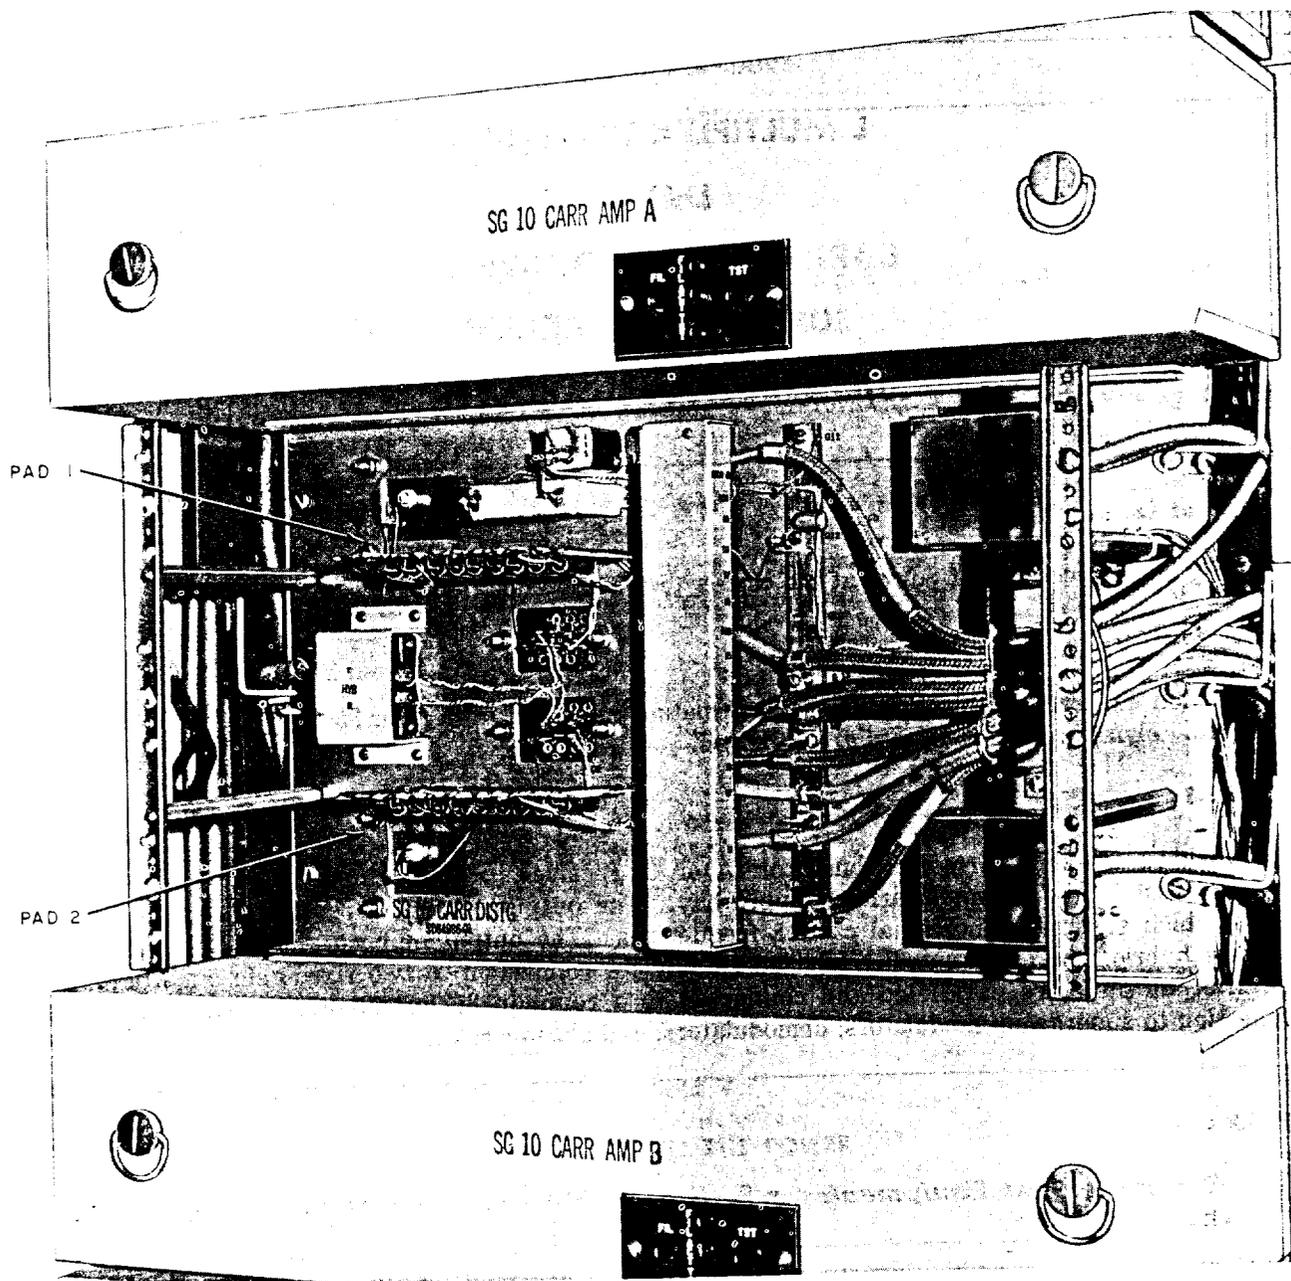
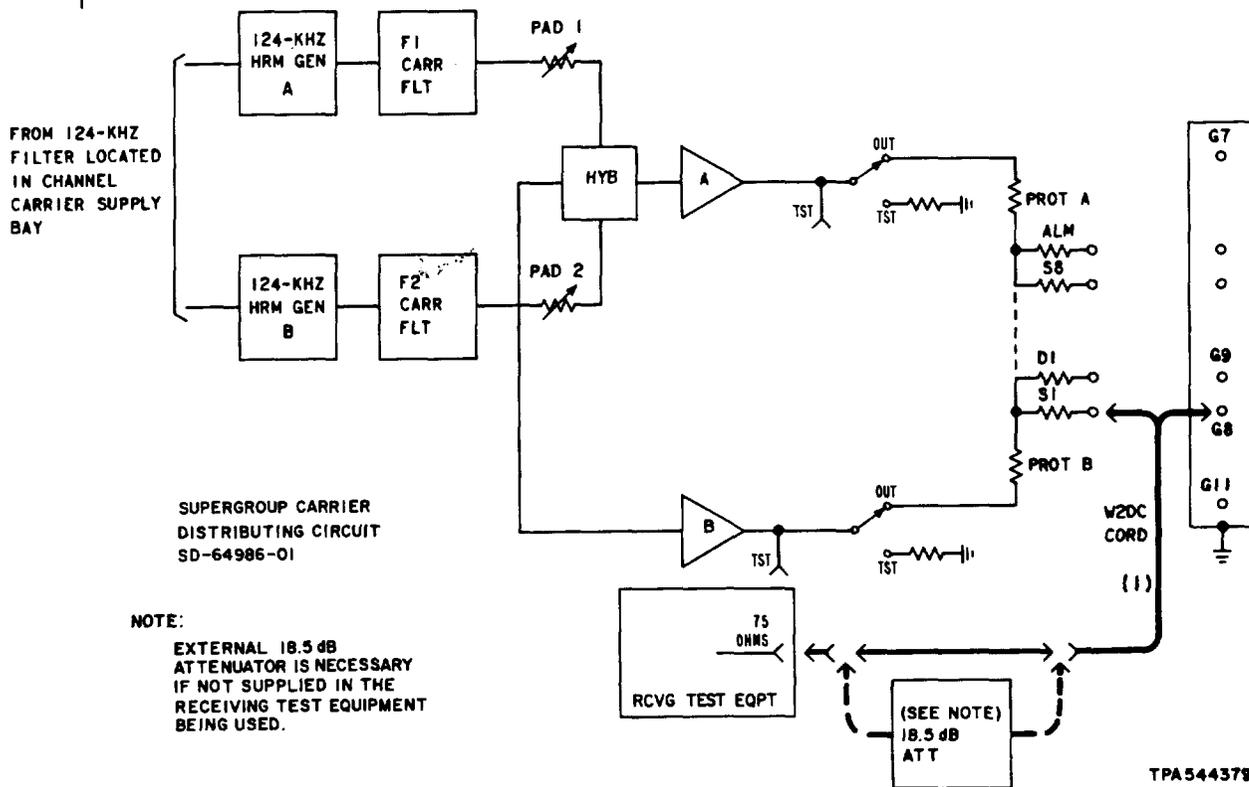

Fig. 1—Supergroup Carrier Amplifiers and Associated Distribution Bus
Fig. 2—Supergroup Carrier Supply—Measurement of Distribution Bus Power
To verify the correct output power at the carrier distribution bus (Fig. 1).
1	Prepare the Receiving Test Equipment (RTE) for a 75-ohm measurement of the carrier frequency to be tested (Table A) and insert 18.5 dB of attenuation (Fig. 2).
2	At the distribution bus (Fig. 1), connect the RTE through a suitable attenuator to an unused bus tap [patch (1), Fig. 2].
9	<p>Remove patch (1), Fig. 2.</p>